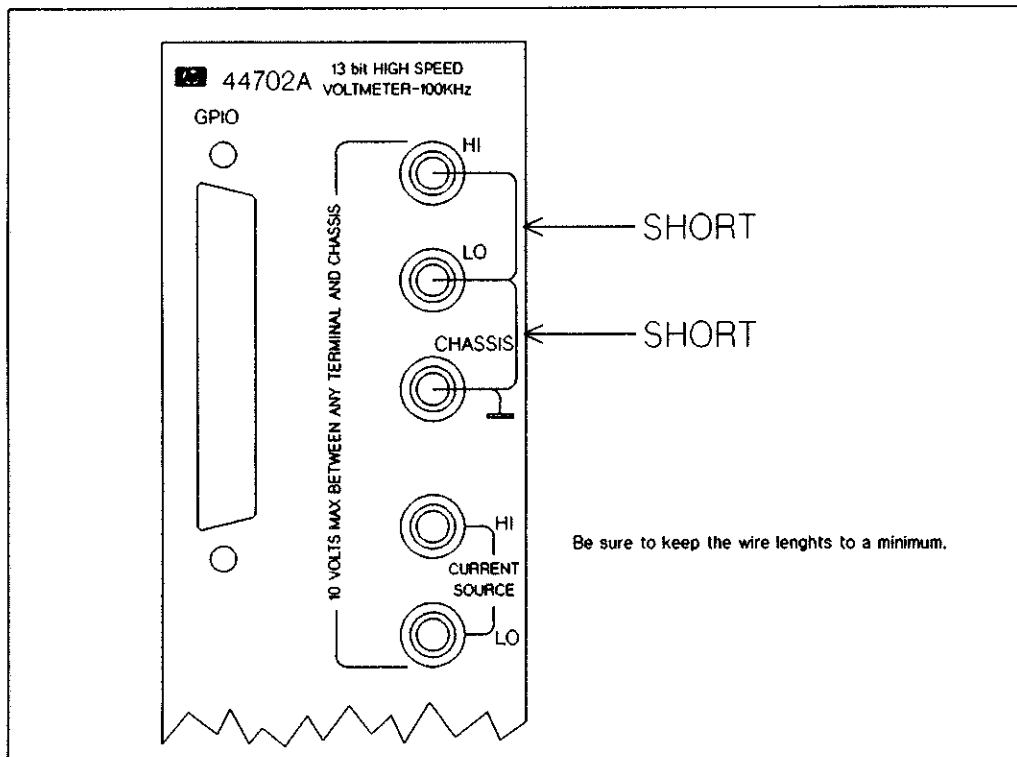

Figure 7-4 DC Voltage Offset Test Connections
3. Connect a low thermal short across the rear HI and LO Input Terminals of the HP 44702A/B High Speed Voltmeter accessory. Then connect another low thermal short across the rear LO and CHASSIS Terminals. The connections are shown in Figure 7-4.